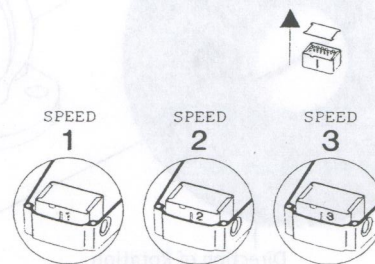

Fig.14
- Pull the speed switch module OUT, and re-insert, making the desired speed visible through terminal box window (see Fig.14)